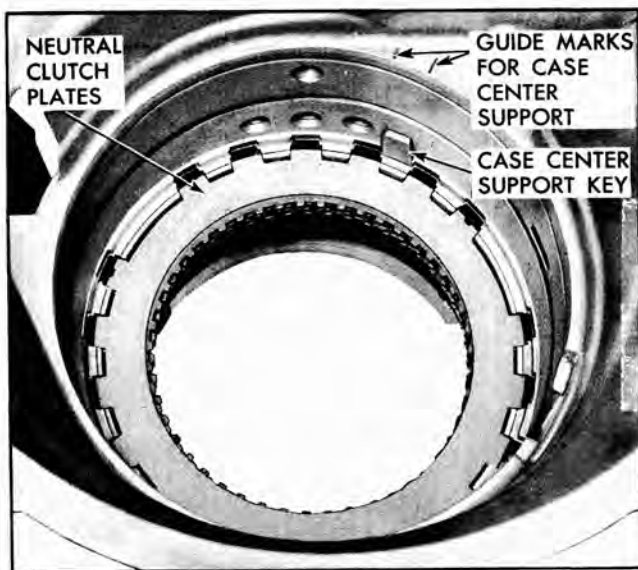

Fig. 63 Neutral Clutch Plates and Case Center Support Key in Case
4. Remove the case center support key from the transmission case (Fig. 63).